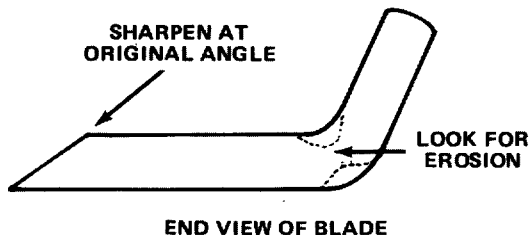

Figure 17
7. Using a file, sharpen cutting edge at both ends of the blade (Fig. 17).
7. Since rider is tipped on end, check condition of blade (Fig. 17).